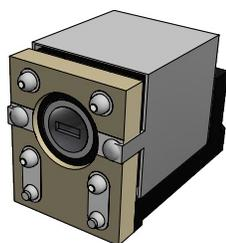

Figure 1
Shielding effectiveness can be specified in terms of the reduction in magnetic and/or electric field strength caused by the shield, the physical barrier. The electromagnetic (EM) waves striking the properly designed shield (optimum materials and geometry, and minimized leakage/apertures) are either reflected or absorbed, resulting in attenuated EMI induced into the circuit. Electric field shields are typically made from thin, conductive, low-resistance metals such as plated brass or copper, being mindful that some thickening of the shield is necessary for lower frequencies, due to the skin depth effect. Grounding to the chassis or enclosure, if possible, can prove to be effective to divert this noise away from the desired power and signal paths. GCG offers many solutions within this family of shields (see Figures 1 and 2 for real world examples). They work well, typically, for high-frequency SMPS, fast digital and RF/microwave modulation formats, and when external AND internal noise and couplings in miniaturized circuits can become troublesome.